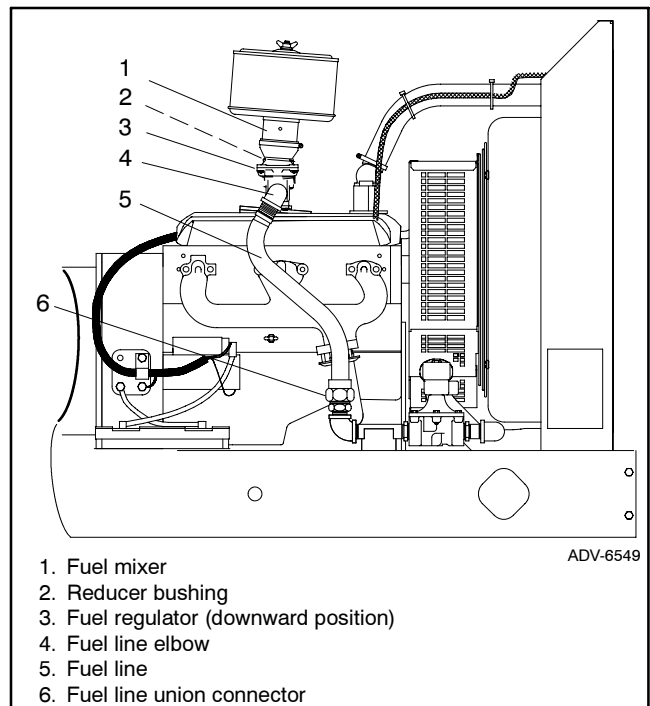

Figure 7-28 Fuel System Configuration, Typical
Figure 7-28 shows the natural gas configuration for the 50/60 kW models; the 30-45 kW and 80-125 kW models are similar.
- a. Remove the components from the engine as shown in Figure 7-28.